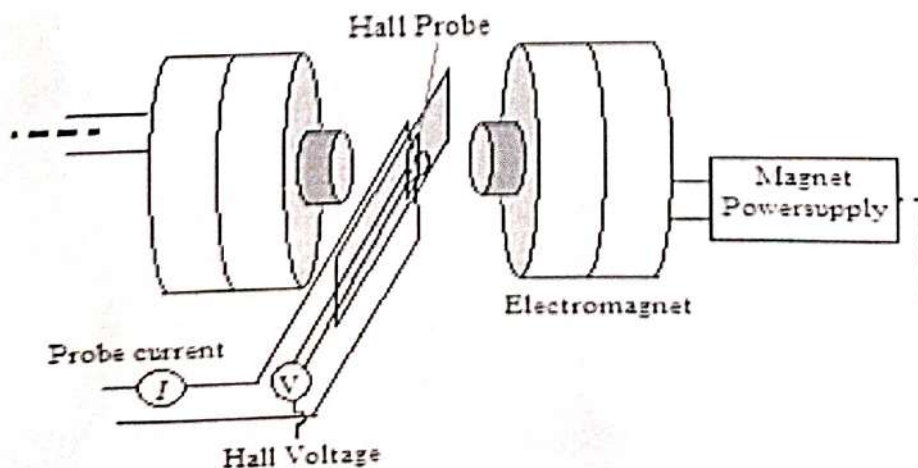

Fig.3
- Place probe in the magnetic field as shown in fig. 3 and switch on electromagnet power supply and adjust the current of power supply at ~ 1.3 Amp (I_{em}) for 1000 Gauss constant magnetic field (measured by Gaussmeter).
1. The p-type Ge sample is factory fitted. If there is any need for replacing or mounting a sample then, proceed as per following procedure . Unscrew the pipe of the four probe arrangement and place the sample on the base plate of 4-probe arrangement and adjust the pipe such that the 4-point probe lie in the middle of the sample as shown in figure 3.
Fig. 3 shows four probe arrangement for mounting sample.